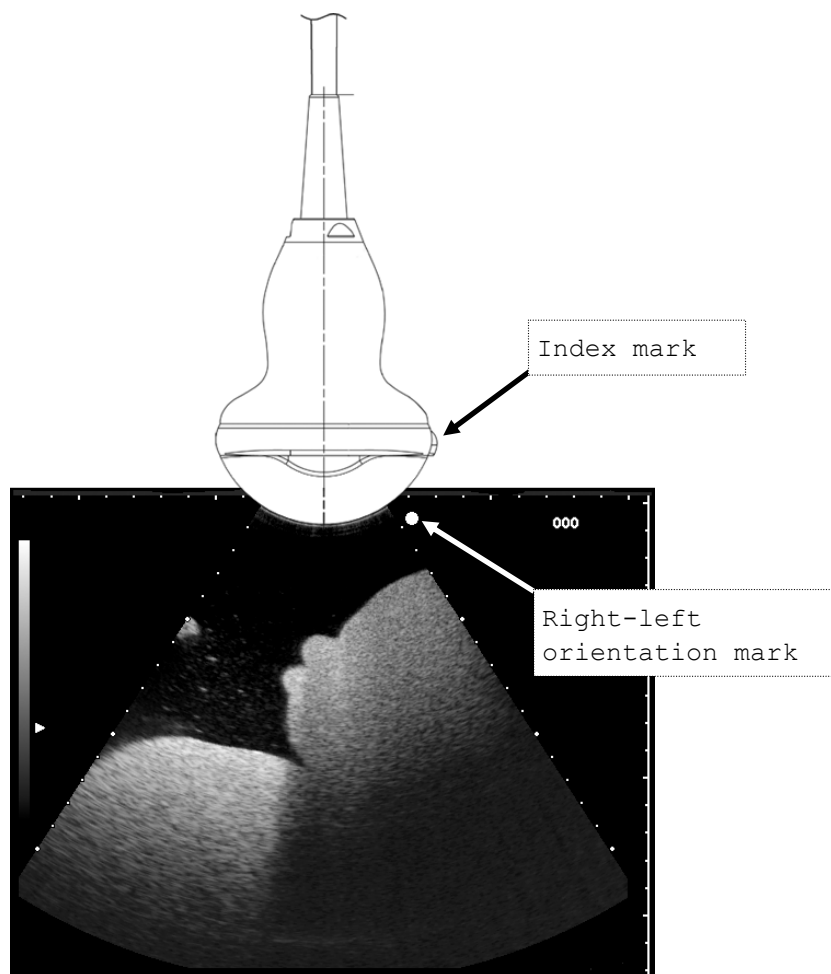

Fig. 2 Relationship between Index Mark and the Right-left orientation mark
- 3) Relationship between direction of the probe and the image is shown in Fig. 2. The right-left orientation mark on the image indicates the direction of the index mark on the probe.